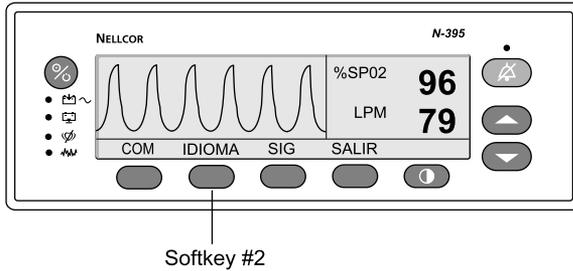

Figure 27: IDIOMA Softkey
- Once again, the display will change to look like Figure 27. Now press the second softkey from the left.